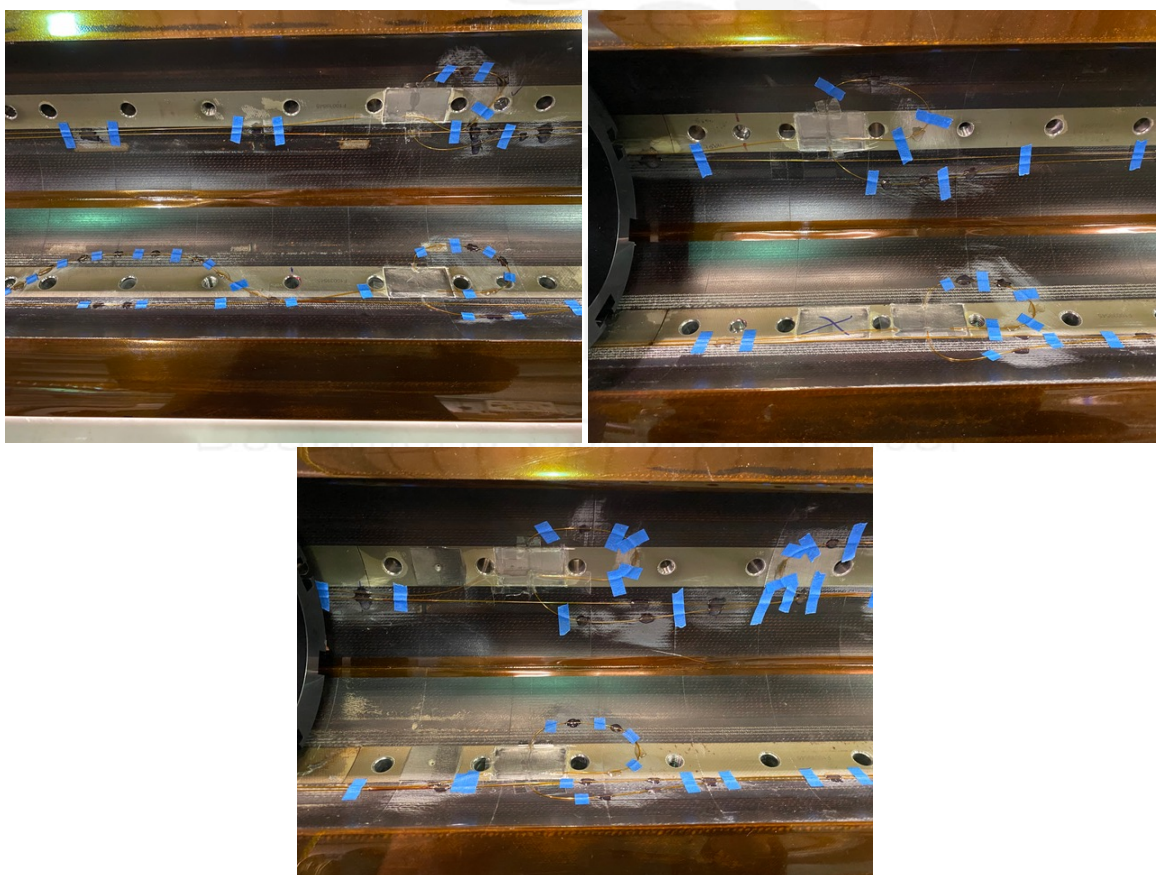

Figure 9: Fiber routing examples
71. Carefully unwind the fiber onto the coil, starting from the Lead End. Tape locations down for temporary placement, ensuring that the fibers will not be snagged by fingers or tooling. Note that the loops at each strain gauge station in Figure 9 show the axial grating laid out first, then looped up and over for the transverse grating.